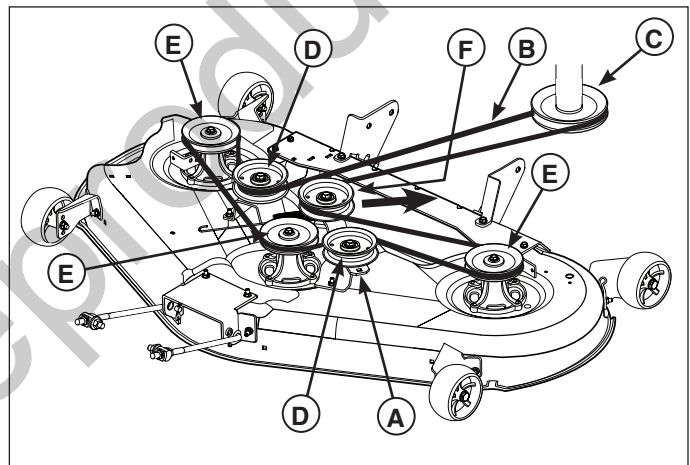

Figure 17. Mower Belt Routing
3. Pull back on the tensioning idler (**F**, Figure 17) in the direction indicated by the arrow, and remove the mower belt from the PTO pulley (**C**).
6. Pull back on the tensioning idler (D, Figure 17) in the direction indicated, and install the belt onto the PTO pulley as shown in Figure 17.